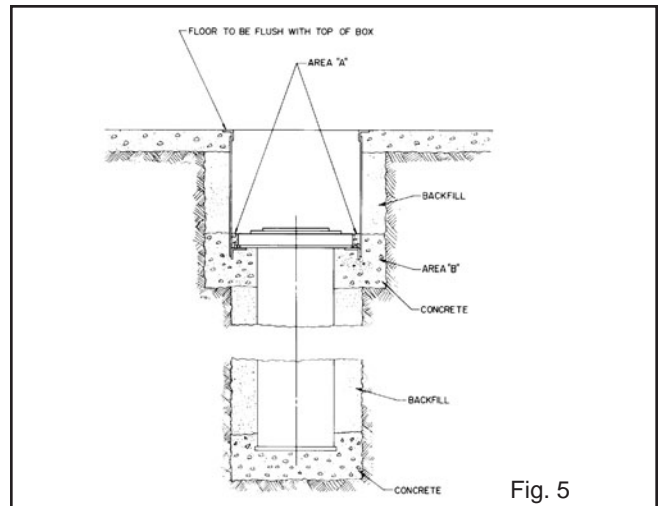

Fig. 5
15. COMPLETE CONCRETING. (See Fig. 5) Recheck top of trench box to insure that it is level in all directions before proceeding further. (12) 1/8" diameter holes are located in the end of the box. These holes indicate the proper concrete level in the box. With the trench box braced, to maintain proper width, pour concrete into box filling area "A" to top of cylinder form ring and 1/8" dia. holes.